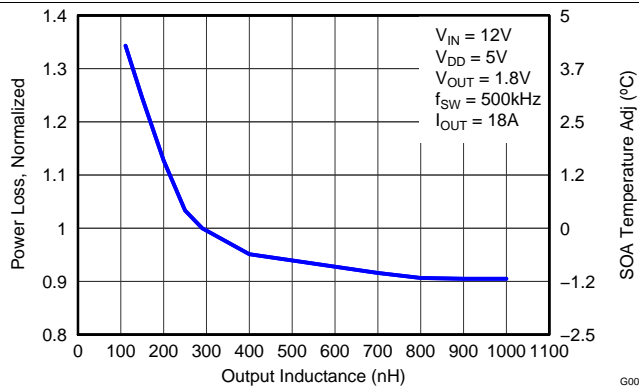

Figure 8. Normalized Power Loss vs Output Inductance
- Normalized Power Loss for output inductor ≈ 1.1 (Figure 8)
- SOA adjustment for output inductor $\approx 1.3^\circ\text{C}$ (Figure 8)